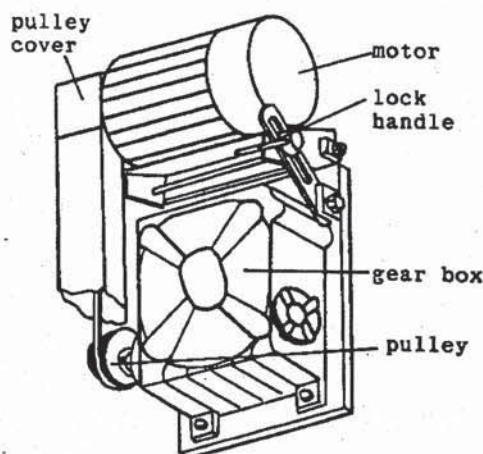

Fig. 1 Speed Swap Configuration
2. Loosen the lock handle under the motor. (Shown in Fig. 1)